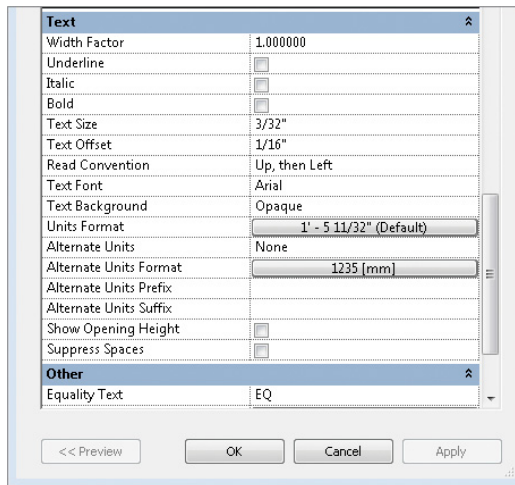

FIGURE 11.23 Dimension type properties
6. In this dimension, the dimension text has a white box similar to a masking region that lies behind the text and covers some of the detail of the sill condition. You can eliminate this box so the dimension string reads clearly and doesn't cover underlying elements. To do this, highlight the dimension by left-clicking it, and select Edit Type from the Properties palette. The Type Properties dialog box for dimensions opens, as shown in Figure 11.23.